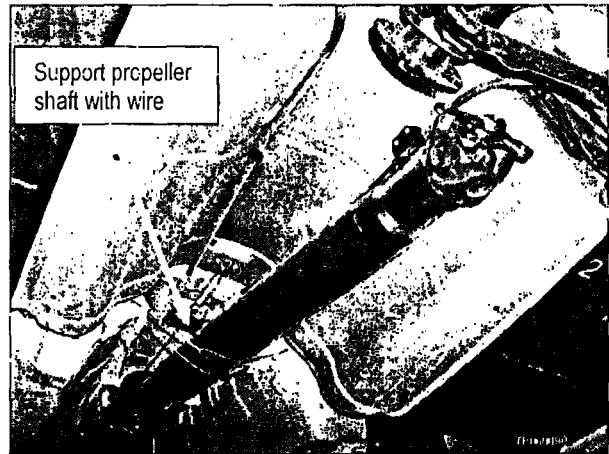

Figure 19b
25. Remove four nuts and bolts and carefully re-position the propeller shaft down and to one side. Use a piece of wire to support the propeller shaft to avoid excessive tension on the propeller shaft center bearing (see Figure 19b).